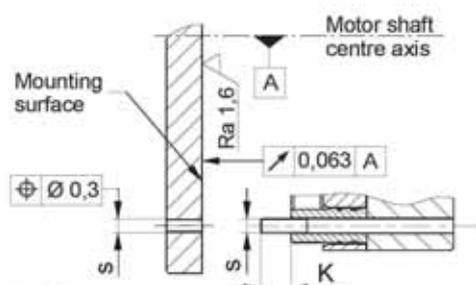

Fig. 5
- ❑ On hub designs (Type 8012_1__3), the hub bore (10) tolerances and the shaft must be selected so that the hub toothing (10) is not widened. Widening of the toothing leads to the rotor (3) jamming on the hub (10) and therefore to brake malfunctions. Recommended hub - shaft tolerance H7/k6. If the hub (10) is heated for better joining, the O-ring (11) must be removed beforehand and re-mounted after hub installation. The max. permitted joining temperature of 200 °C must not be exceeded.
- ❑ Dimensioning of the key connection according to the requirements shaft diameter, transmittable torque and operating conditions must be carried out. For this, the corresponding user data must be known or the customer must carry out the dimensioning according to the valid calculation basis DIN 6892. For the calculation, a hub quality of $Re = 300 \text{ N/mm}^2$ should be used. The length of the key should lie over the entire hub (10).
- ❑ The mounting dimensions and the screw-on surface s with depth $K + 2 \text{ mm}$ ($K = \text{screw projection}$) acc. Catalogue or applicable assembly drawing must be given (Fig. 5).